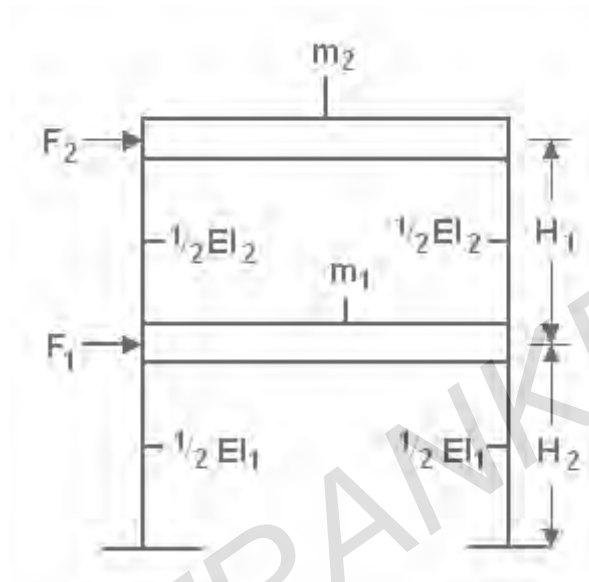

Figure 6
4. Figure below shows an equivalent model for a two storey building. The system consists of two rigid masses m_1 and m_2 supported on elastic columns. Columns as massless beams supported at both the ends. Elastic properties of the columns are as shown in the figure 6, Assume that the building only goes under horizontal motion. Let $m_1 = m_2 = m$, $H_1 = H_2 = H$, $I_1 = I_2 = I$.